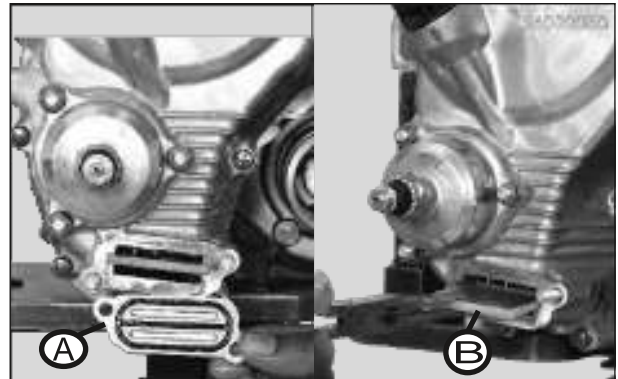

Fig. 2.12
- Take out the cover oil strainer (A) and pull out the oil strainer (B) and inspect for any damage. Replace if necessary. Otherwise clean and reassemble the oil strainer. (Fig. 2.12)